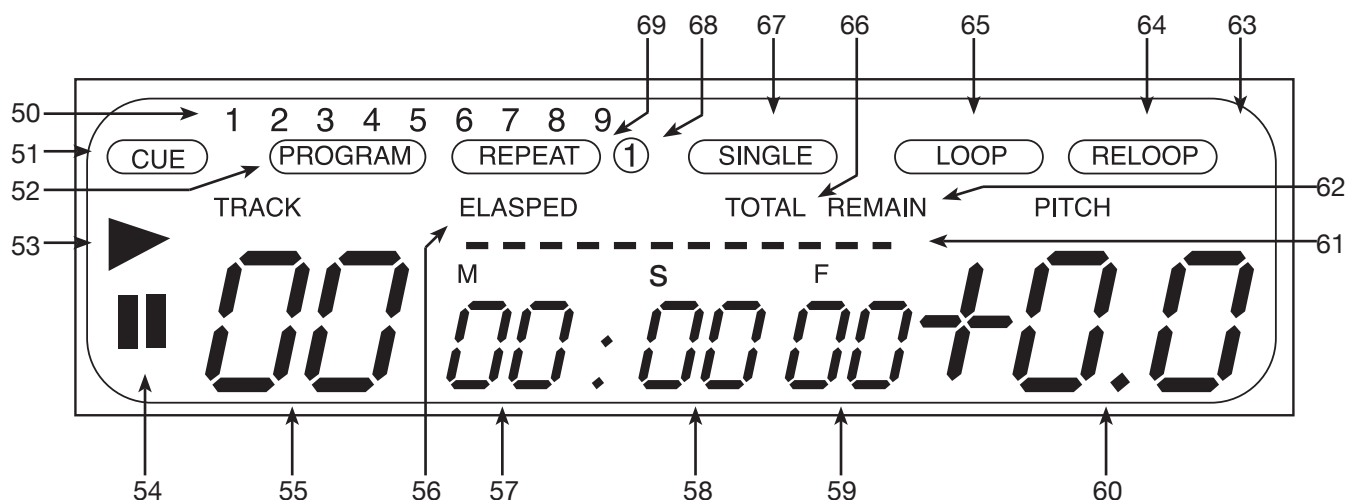

Figure 7
E. LCD DISPLAY (FIGURE 7)
59) When the ELAPSE indicator is displayed in the LCD (14), the time defined will refer to a single track's elapsed time. The time mode is changed by the tapping on the TIME BUTTON (5).